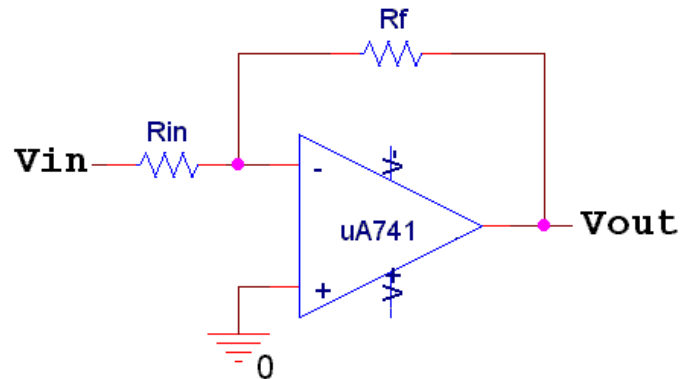

Figure A-5
*The Inverting Amplifier:* Figure A-5 shows an *inverting amplifier*.